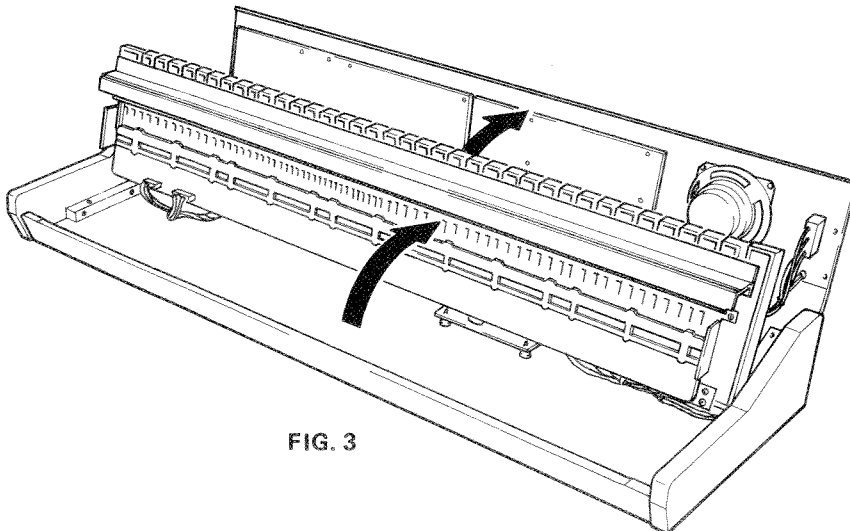

FIG. 3
- The keyboard can now be lifted as shown in the figure 3.